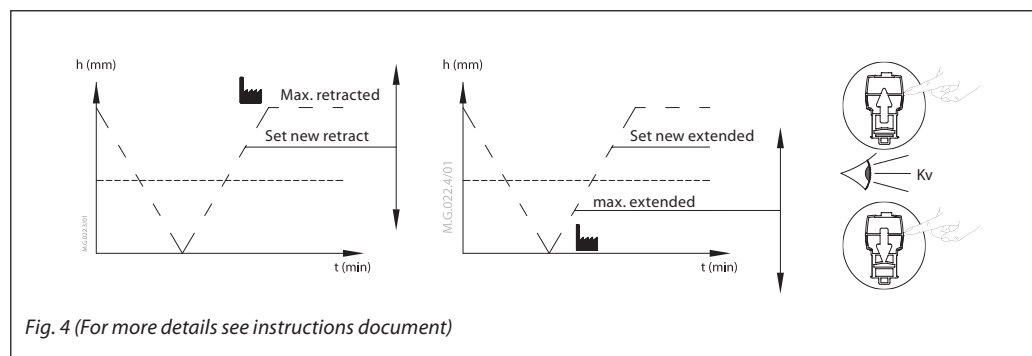

Fig. 4 (For more details see instructions document)
**DIP5: 100%/95% – Stroke limitation** (fig.4):